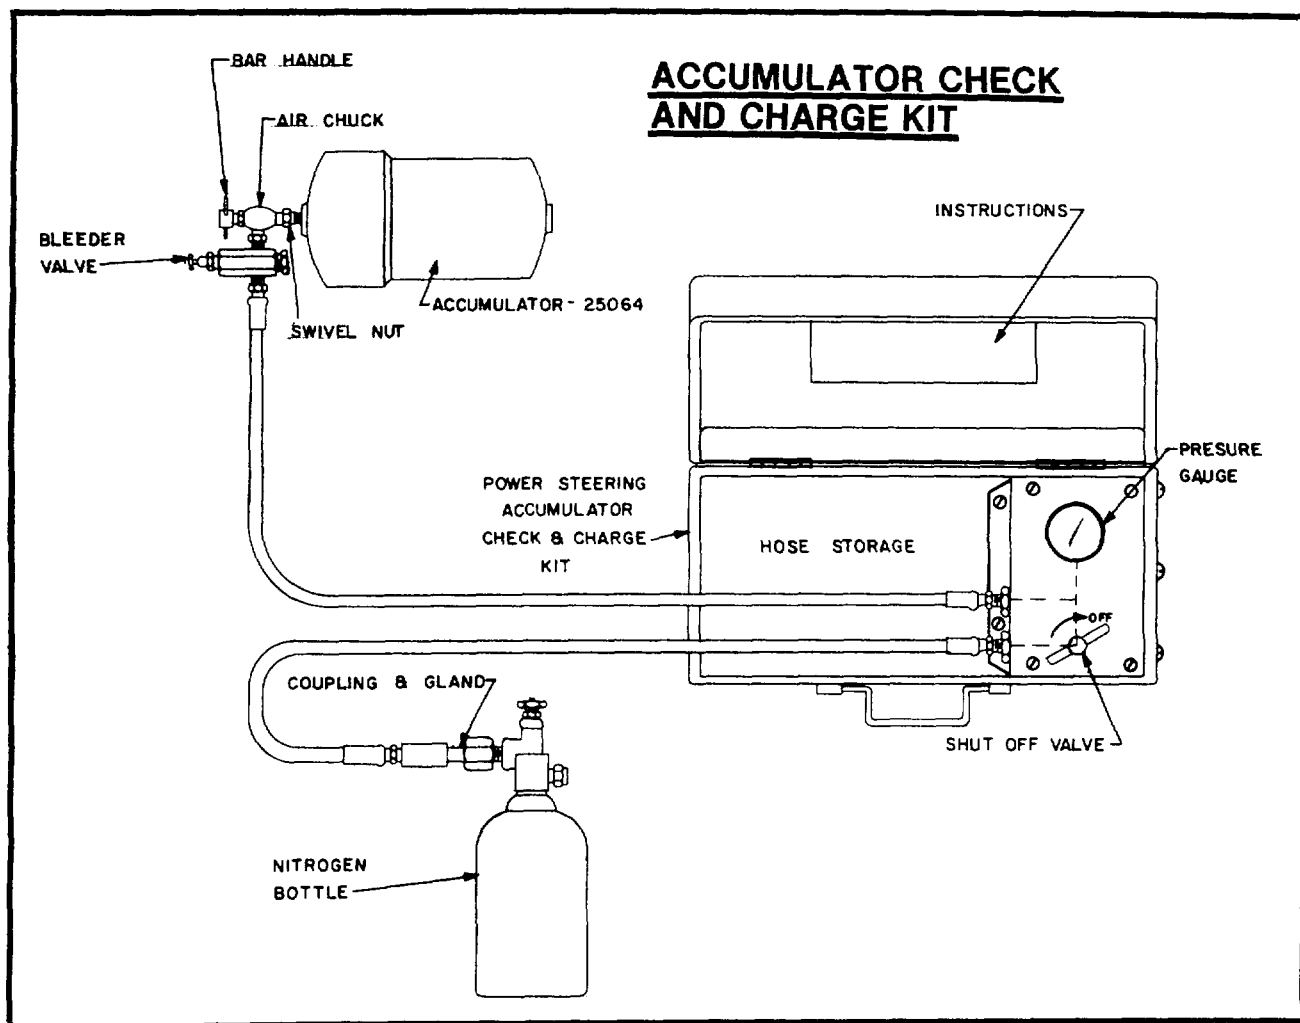

Figure 5-157
1. Remove the accumulator gas valve guard and valve nut (Pg. 4-76, items 8 and 9).
2. Take the short hose which is equipped with the air chuck and make sure that the bar handle on the air chuck is turned completely counterclockwise. Turn the bleeder valve hand stem completely clockwise (Fig. 5-156, Fig. 5-157).
3. Turn the shut off valve on the kit fully clockwise to its "OFF" position (Fig. 5-156, Fig. 5-157).
1. Turn the bar handle on the air chuck completely clockwise (Fig. 5-156, Fig. 5-157).
2. Read the gas pressure on the pressure gauge. If the pressure gauge reads between 800 and 850 psi, your accumulator is properly precharged (Fig. 5-156, Fig. 5-157).